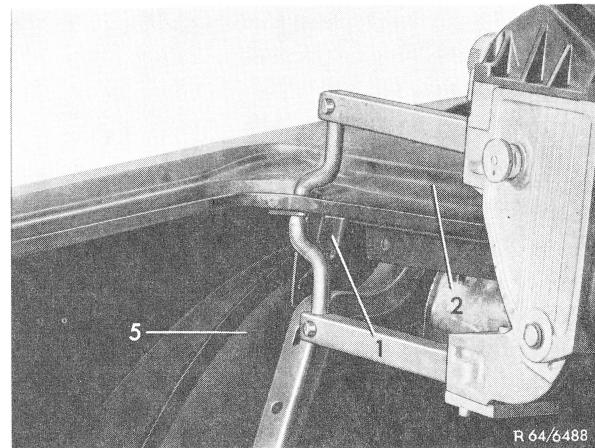
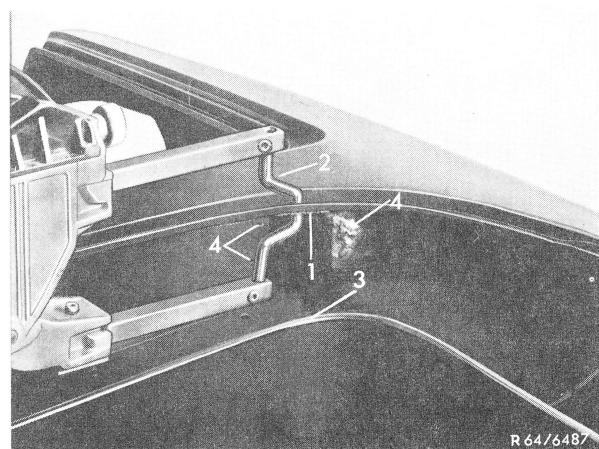

Figure 1
Figure 2
- 12 Spotweld hinge bearing (1) to upper rear center piece (2) (Fig. 1 and 2) and connect from inside of well (3) by plug welding (4) (Fig. 2).
- 13 Connect hinge bearing (1) to wheel house (5) by stringwelding (Fig. 1).